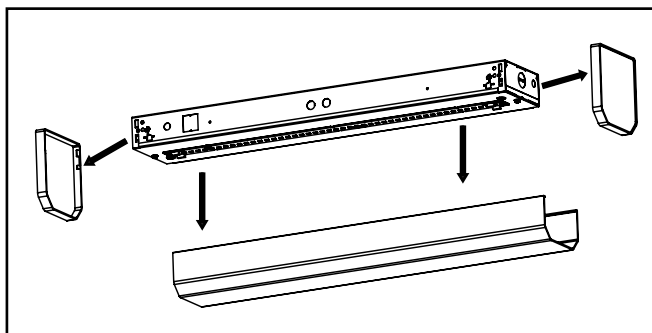

Figure 1.
2. Remove lens and endcap from fixture to access the channel cover (Figure 1).